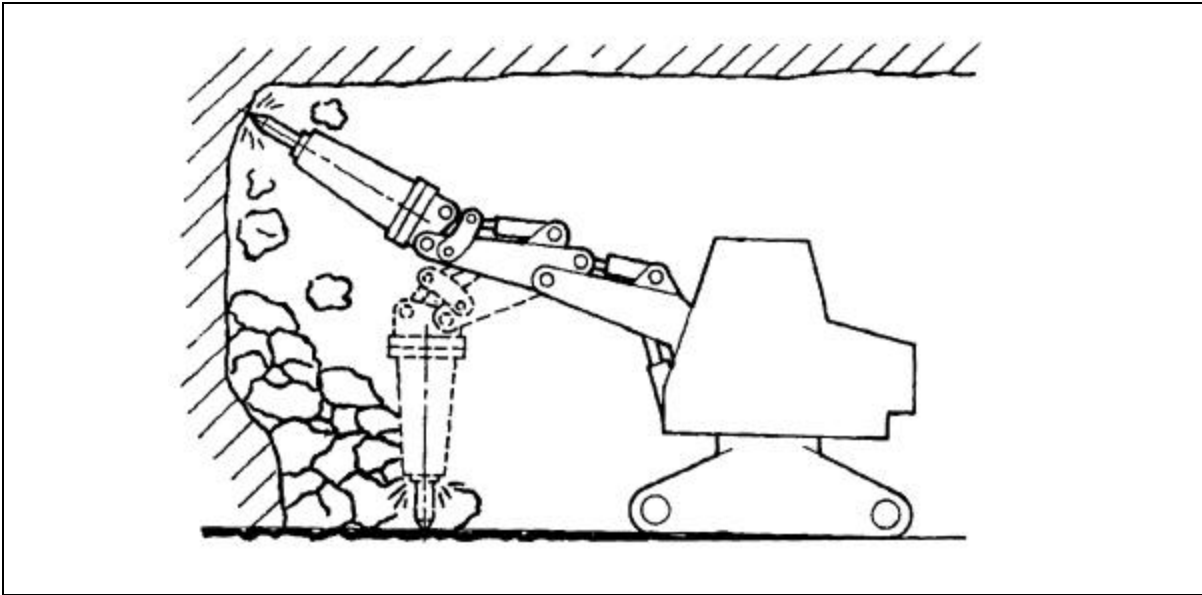

Figure 03-05: Remove Tool and Clean Breaker Every Eight Hours
- h) When using the hammers in these positions, the tool should be removed every 8 hours, and the internal faces of the bush cleaned with a wire brush or lubricant cleaner. (Figure 03-05) If the hammer is very full of rock particles, remove the appropriate plug from the side of the chuck housing, and blow out the hammer with compressed air.